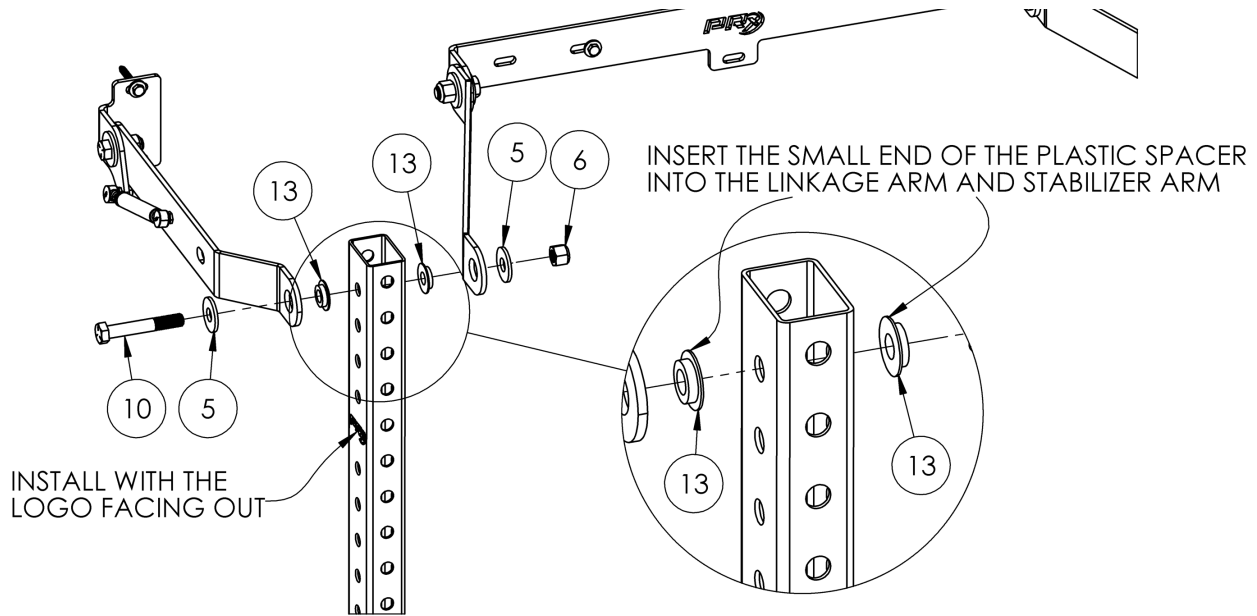

Figure 8: Bolting the Rack to the Upper Linkage Arms
2. Use one 5/8" x 4" hex bolt (10) and bolt the linkage arm to the upright through the stabilizer arm using the 5/8" x 4" hex bolt (10), two 5/8" flat washers (5), two plastic spacers (13) and one 5/8" locknut (6) (**Figure 8**). Repeat this with the other side.